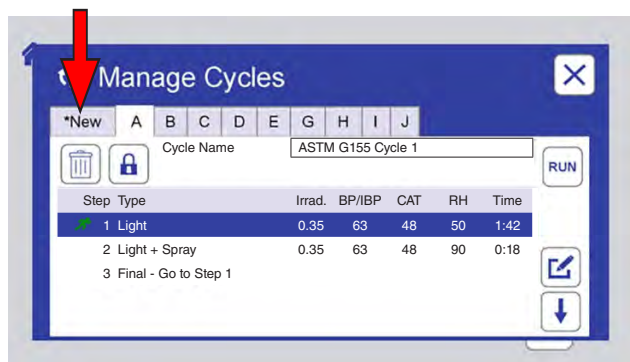
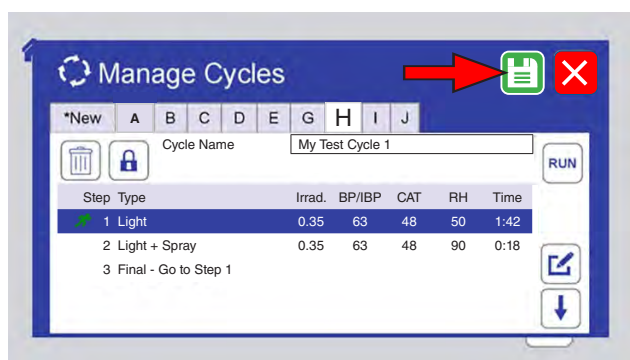

Figure 11.6.7a: To create a new cycle, touch the *New tab.
Figure 11.6.7e: Follow Figure 11.6.4a through Figure 11.6.4j to add steps and save the new cycle.
- Create a new cycle (Figure 11.6.7a through Figure 11.6.7e).